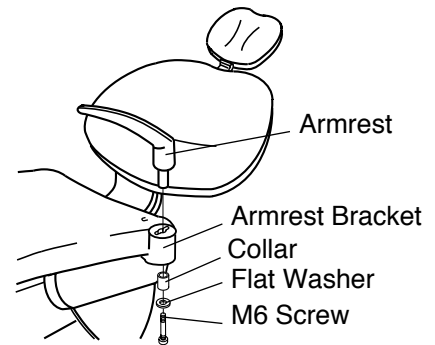

Fig.3-7-6 Fixing Seat
(9) Fix the armrests to the armrest bracket with two Pan head screws (M6-25), flat washer and collar. **(Fig.3-7-6)**